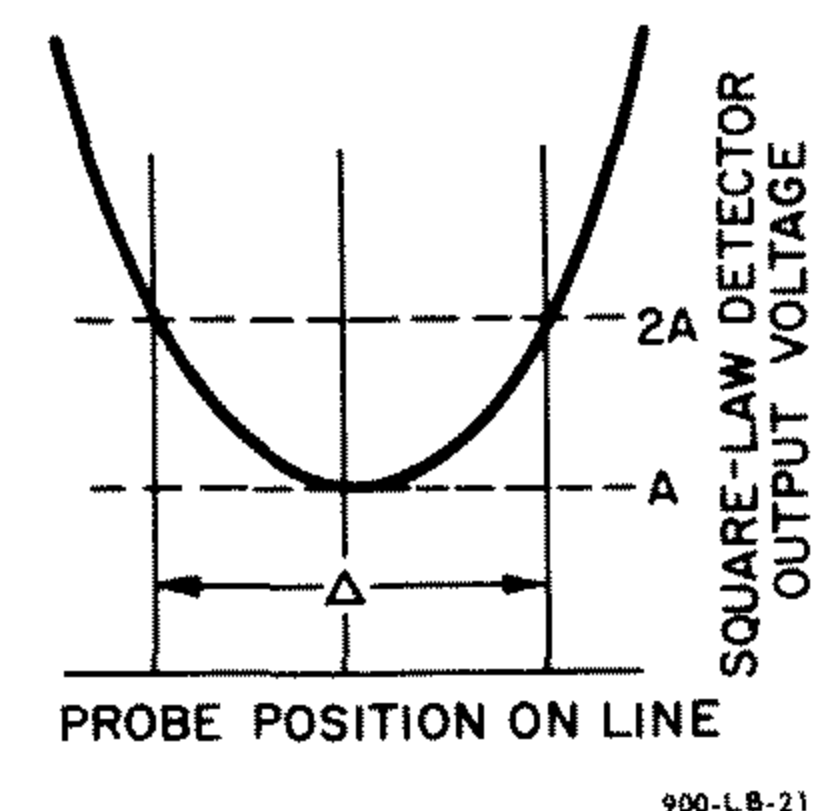

Figure 3-4. Method of measuring the width-of-voltage minimum.
At the voltage maximum, high probe coupling causes a loading effect with a resulting error in the SWR indication. However, at the voltage minimum, a high degree of probe coupling is required to detect the signal. These extremes in the probe coupling requirements at the maxima and minima can cause erroneous SWR indications. A measurement technique called width-of-minimum can be used to accurately extrapolate the voltage minimum. The width-of-minimum technique has its analogy in the measurement of bandwidth between the two half-power points. Figure 3-4 illustrates the width-of-minimum technique which is performed as follows:
d. Move the slotted-line carriage probe to obtain an indication of 0 on the red dB scale on each side of the previously established minimum and note the position of the slotted-line probe for each direction. Record the difference in slotted-line probe carriage position as the distance  $\Delta$  (refer to Figure 3-4).